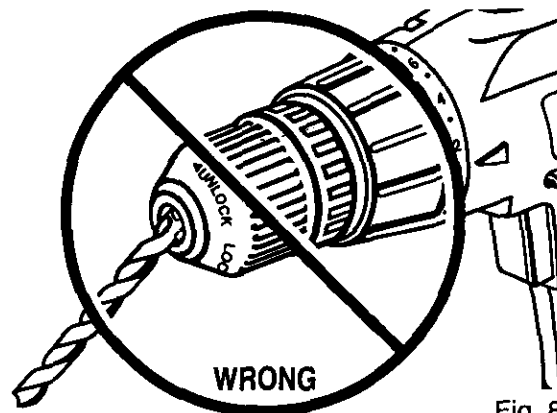

Fig. 8
**⚠ WARNING:** Make sure to insert drill bit straight into chuck jaws. Do not insert drill bit into chuck jaws at an angle and then tighten, as shown in figure 8. This could cause drill bit to be thrown from drill, resulting in possible serious personal injury or damage to the chuck.